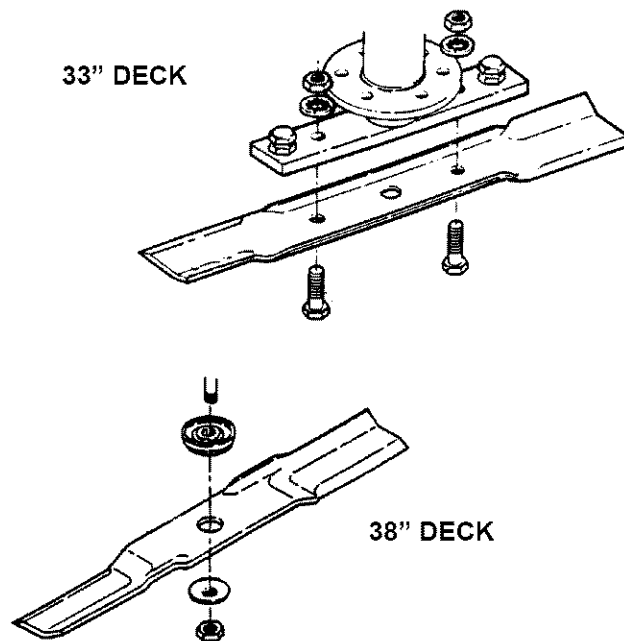

FIGURE 4.16
5. Remove blade(s). See Figure 4.16.
9. Reinstall blade. See Figure 4.16. Torque blade mounting bolts to recommended range of: